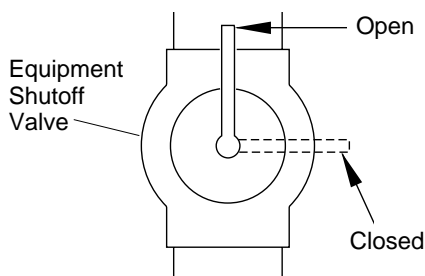

Figure 16 - Equipment Shutoff Valve
1. Close equipment shutoff valve (see Figure 16).
1. Open equipment shutoff valve (see Figure 16).
4. Check all joints from equipment shutoff valve to control valve (see Figure 16). Apply mixture of liquid soap and water to gas joints. Bubbles forming show a leak.